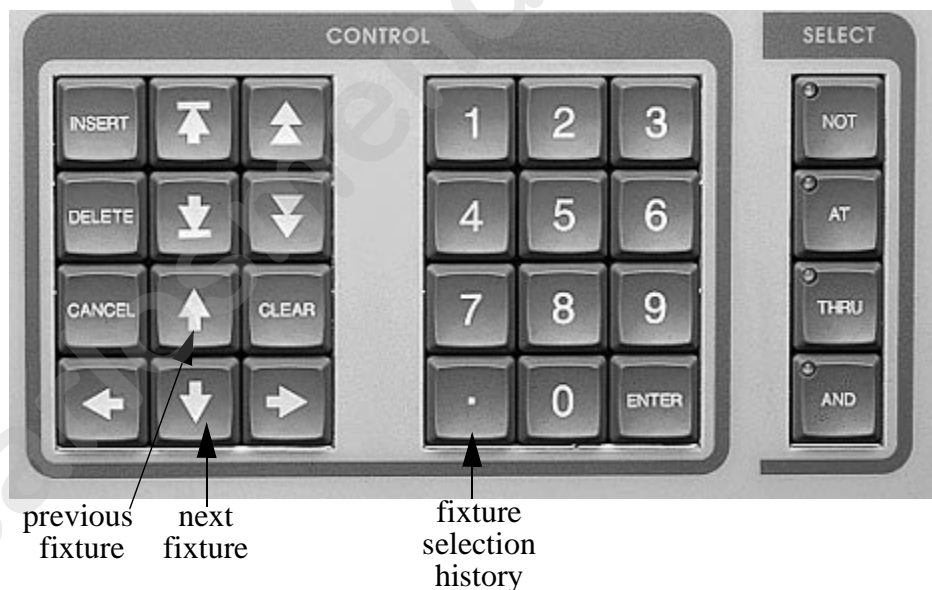

Figure 5.4. CONTROL and SELECT Groups
- The preferred method is to use the numeric keypad in the CONTROL group with the <NOT>, <AND>, and <THRU> keys in the SELECT group to select a range of fixtures. Refer to Figure 5.4.
- Press the up and down keys to move to the previous or next fixture. Refer to Figure 5.4
- Press the <.> key in the CONTROL group to cycle through the last five fixture selections (fixture selection history). Refer to Figure 5.4.
2. Set the **Dim** using the <DIM> wheel (Figure 5.6). Alternately, press the <DIM> key in the CONSTRUCTS group (Figure 5.7) and then the <AT> key in the SELECT group (Figure 5.4) to bring up the **Set Dim At** dialogue box (Figure 5.8). Enter the desired value and click the **OK** button to complete the procedure.